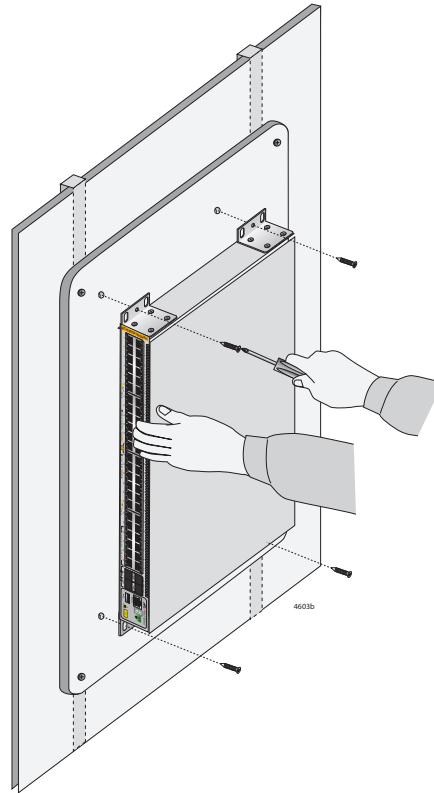

Figure 42. Securing the Switch to the Plywood Base
3. After attaching the brackets, have another person hold the switch on the plywood base on the wall while you secure it with the M4x32.3mm screws included with the switch. Refer to Figure 42 on page 116 for the switch.
- ❑ Position it so that the front panel is left or right. Refer to Figure 42. Do not install it with the front panel facing up or down.